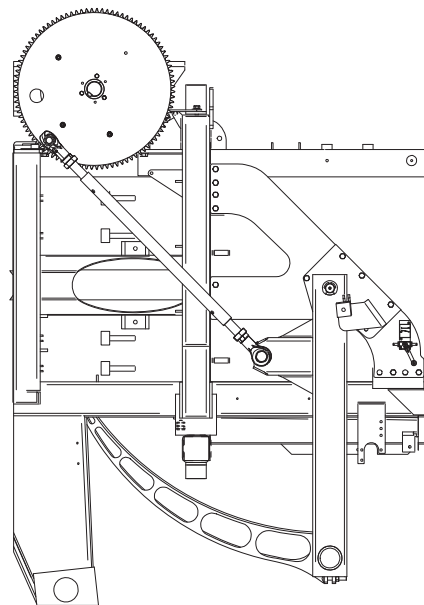

Figure 5-30. Twine Needle Yoke in Mid-Stroke Position
3. Using the DOWN button, drive the needle yoke until they are at mid-stroke (see Figure 5-30).